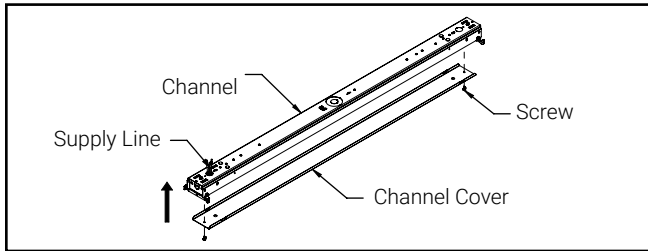

Figure 2
2. Wire fixture according to code and install channel cover to channel with provided screws. (Figure 2)